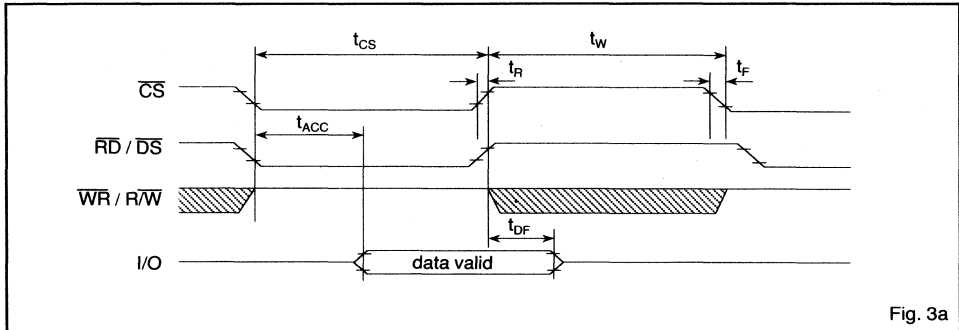

Fig. 3a
The V 3021 resides on the parallel data and address buses as a standard peripheral (see Fig. 11 and 12). Address decoding provides an active low chip select (CS) to the device. For Intel compatible bus timing the control signals RD and WR pulse and CS are used for a single bit read or write (see Fig. 3a and 3b). Two options exist for Motorola compatible bus timing. The first is to use the control signals DS with R/W and CS, the second is to tie the RD input to CS and use the control signals R/W and CS (see Fig. 3a and 3c). Data transfer is accomplished through a single input/output line (I/O). Any data bus line can be chosen. A conventional 3 wire serial interface can also be used to communicate with the V 3021 (see Fig. 13).